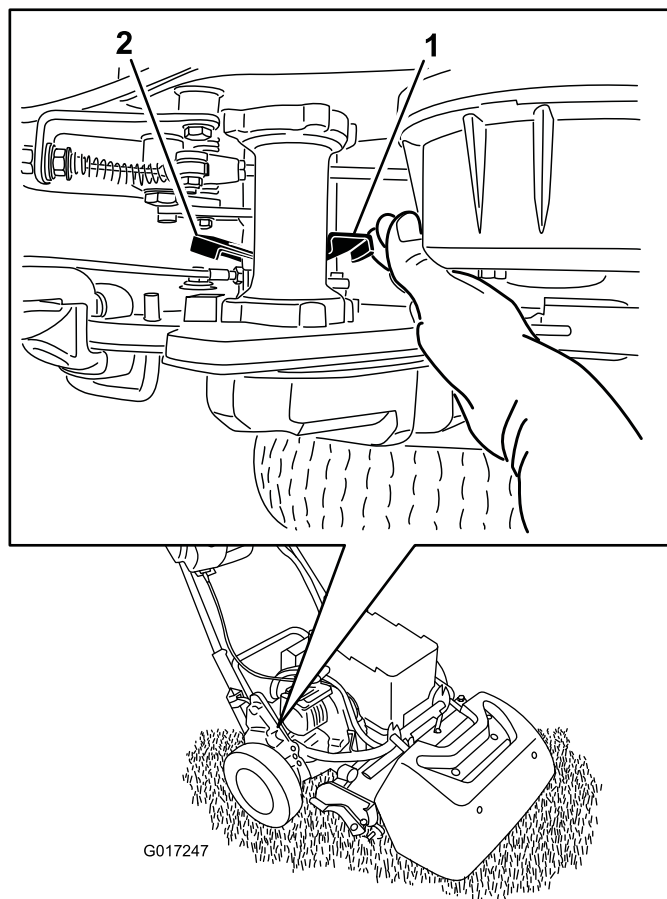

Figure 36
1. On the right rear corner of the machine, locate the traction engage/disengage lever next to the drive housing drum (Figure 36).